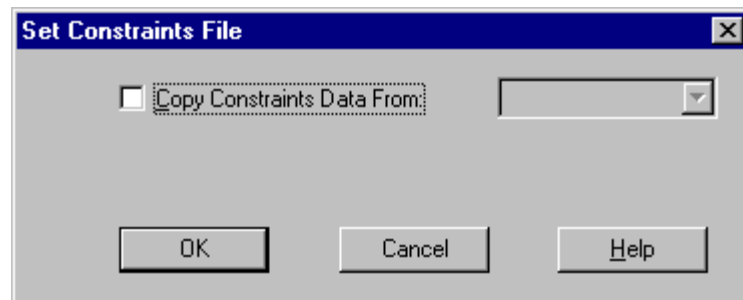

Figure 7: Set Constraints File
- **Set Constraints File** allows the user to copy a user constraints file (.ucf) into the Revision AFTER the Revision has been created. Selecting this menu item will bring up the *Set Constraints File* dialog box, Figure 7.